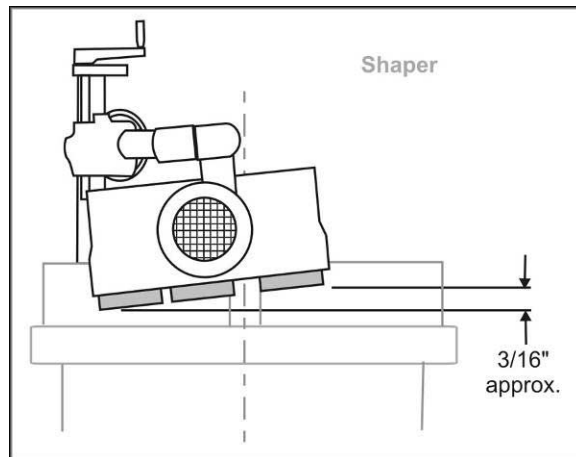

Figure 18
3. When the Stock Feeder is in edgewise position, it must be inclined slightly towards the work table in the direction of feed, to ensure the workpiece remains forced down against the table. In other words, the outfeed roller should be approximately 3/16" closer to the work table than the infeed roller. See Figure 18.
4. When the Stock Feeder is in the edgewise position, or angled for a beveled workpiece, the axis of the cutter should be between the infeed roller and the center roller (between the two center rollers on the 4-roller model). See Figure 18. The center roller should NOT be directed toward the opening between the fences, but should act directly against the fence.